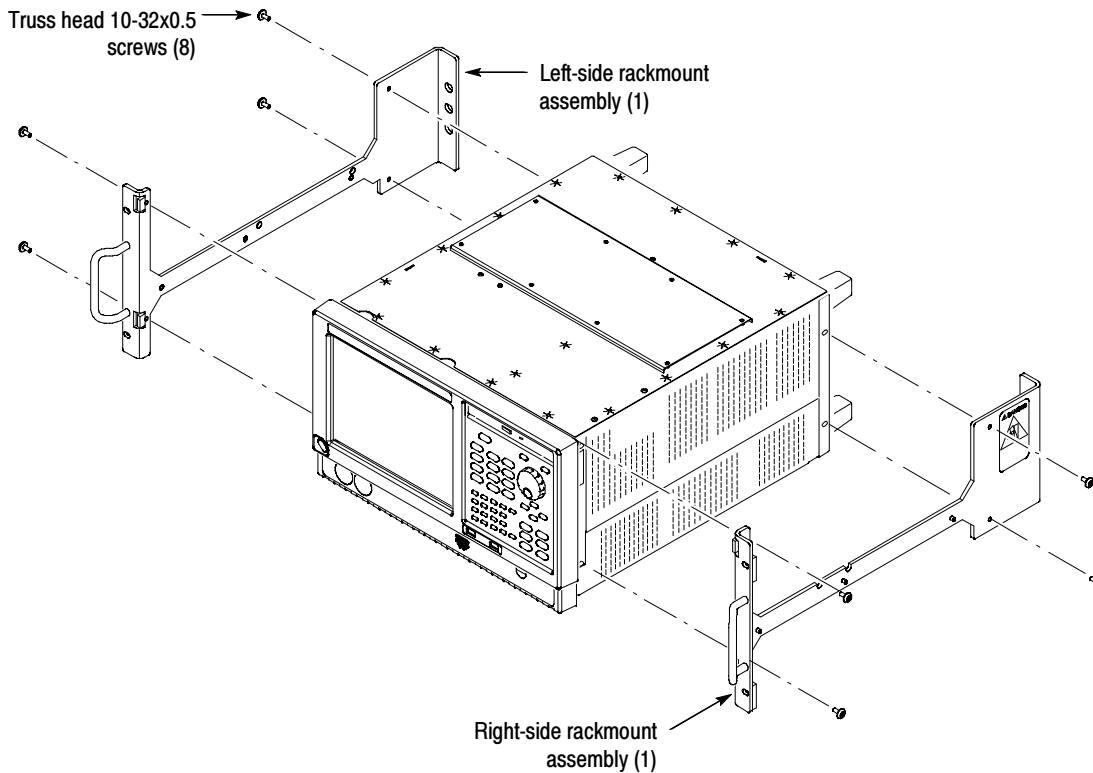

Figure 7: Installation of rackmount assemblies
3. Install the right-side rackmount panel assembly to the right side of the instrument. Secure it by using the four 10-32 Truss head phillips screws, applying 28 inch-lbs of torque. Refer to Figure 7.